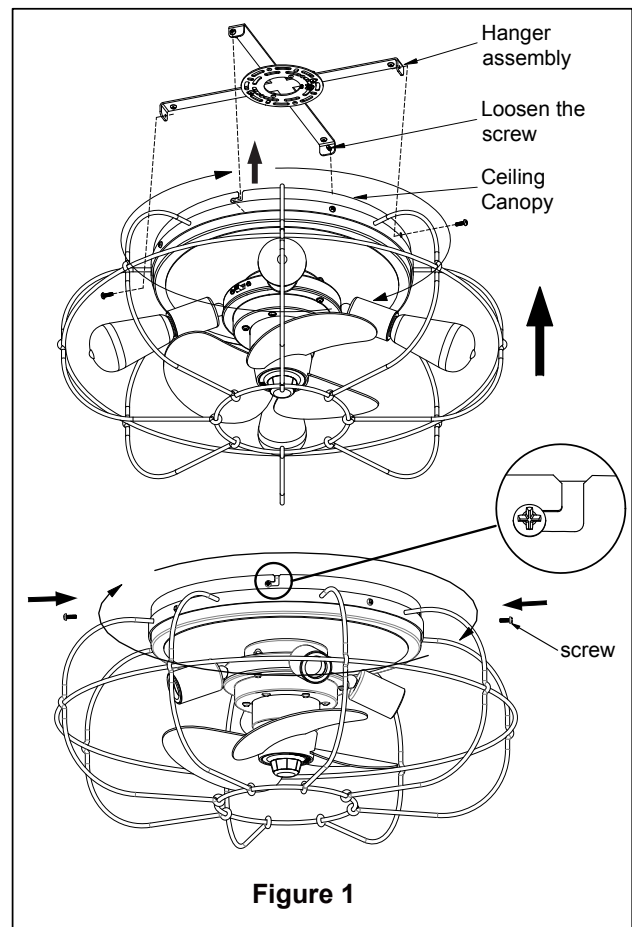

Figure 1
1. Assemble the canopy by rotating it to aligned the "L-shaped" holes from the canopy over the two (2) screws on the hanger bracket, taking care not to pinch the wires. Tighten the two (2) screws. Fully assemble and tighten the remaining two (2) screws previously removed, into the round holes on each side of the canopy (Figure 1)
1. Install light bulbs into sockets by threading in a clockwise direction. (Figure 1)